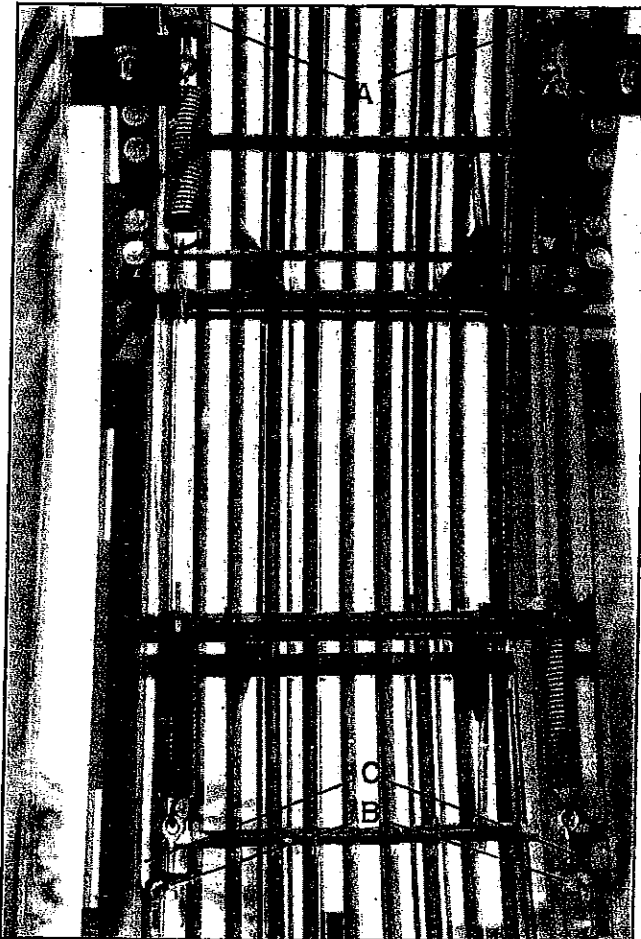

FIGURE 35 - RETAINER
The retainer rod assembly is able to give, so larger beets don't get damaged. Field adjustment is dependent on beet size and tonnage. The spring adjusting nuts (A and B) (see Figure 35) are used to adjust the spring tension. Loosening the stop nuts will decrease the tension.
An additional set of holes (C) (see Figure 35) are provided for the spring bracket, if required for big beets.